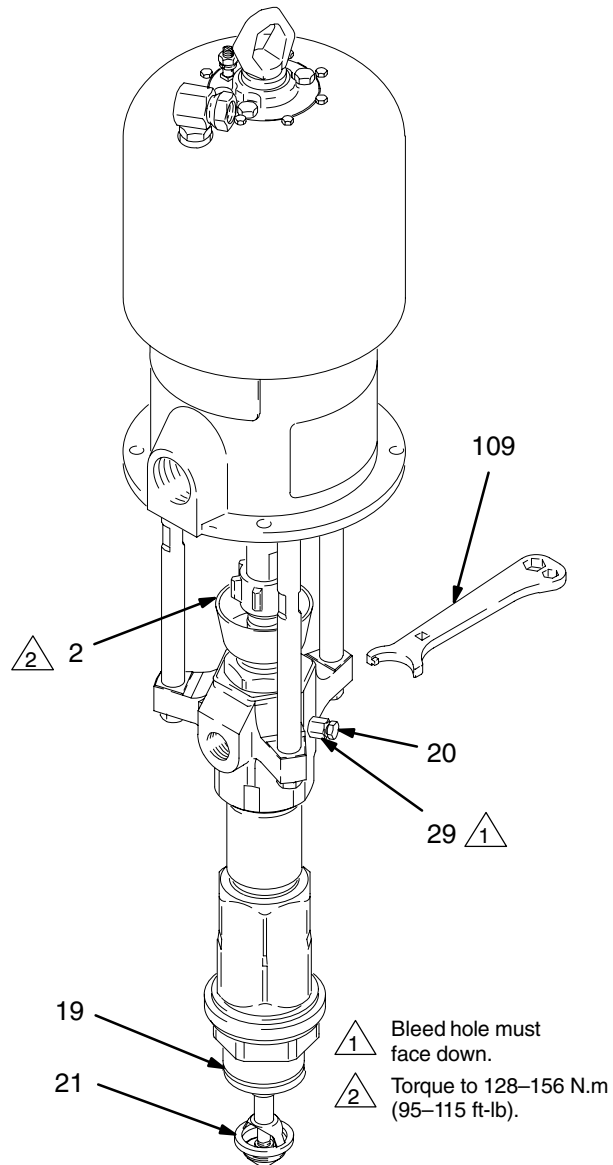

Fig. 5
Before starting, fill the packing nut (2) 1/3 full with Graco Throat Seal Liquid (TSL) or compatible solvent. See Fig. 5.
4. Hold a metal part of the gun/valve (S) firmly to the side of a grounded metal pail and hold the trigger open.
8. If the pump fails to prime properly, open the bleeder valve plug (20) slightly. Use the bleed hole, on the underside of the valve body (29), as a priming valve until the fluid appears at the hole. See Fig. 5. Close the plug.
- NOTE:** When changing fluid containers with the hose and gun/valve already primed, open the bleeder valve plug (20), to help prime the pump and vent air before it enters the hose. Close the plug when all air is eliminated.
10. Use the air regulator (F) to control the pump speed and the fluid pressure. Always use the lowest air pressure necessary to get the desired results. Higher pressures cause premature tip/nozzle and pump wear.